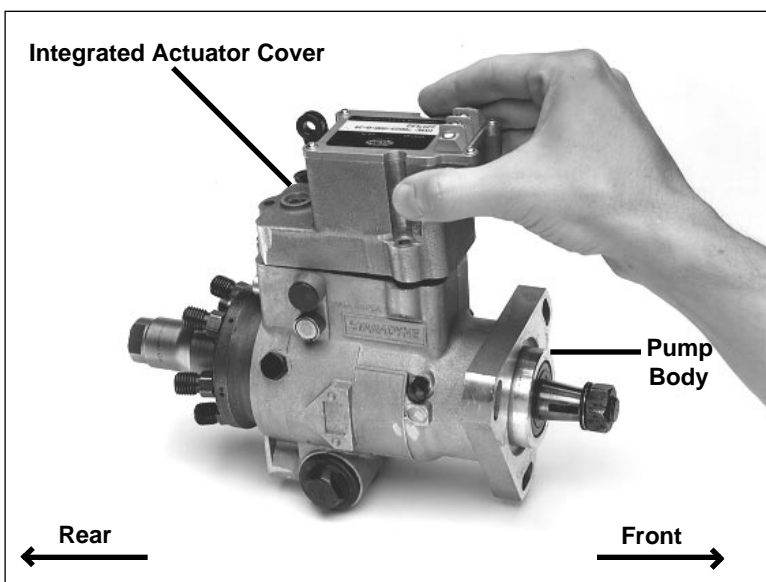

Figure 4
**2.2** Position the INTEGRATED ACTUATOR COVER ASSEMBLY into the top of the pump while holding the METERING VALVE DRIVE COUPLING parallel to the PUMP BODY. Slightly lift the front portion of the INTEGRATED ACTUATOR COVER as shown in *Figure 4*.